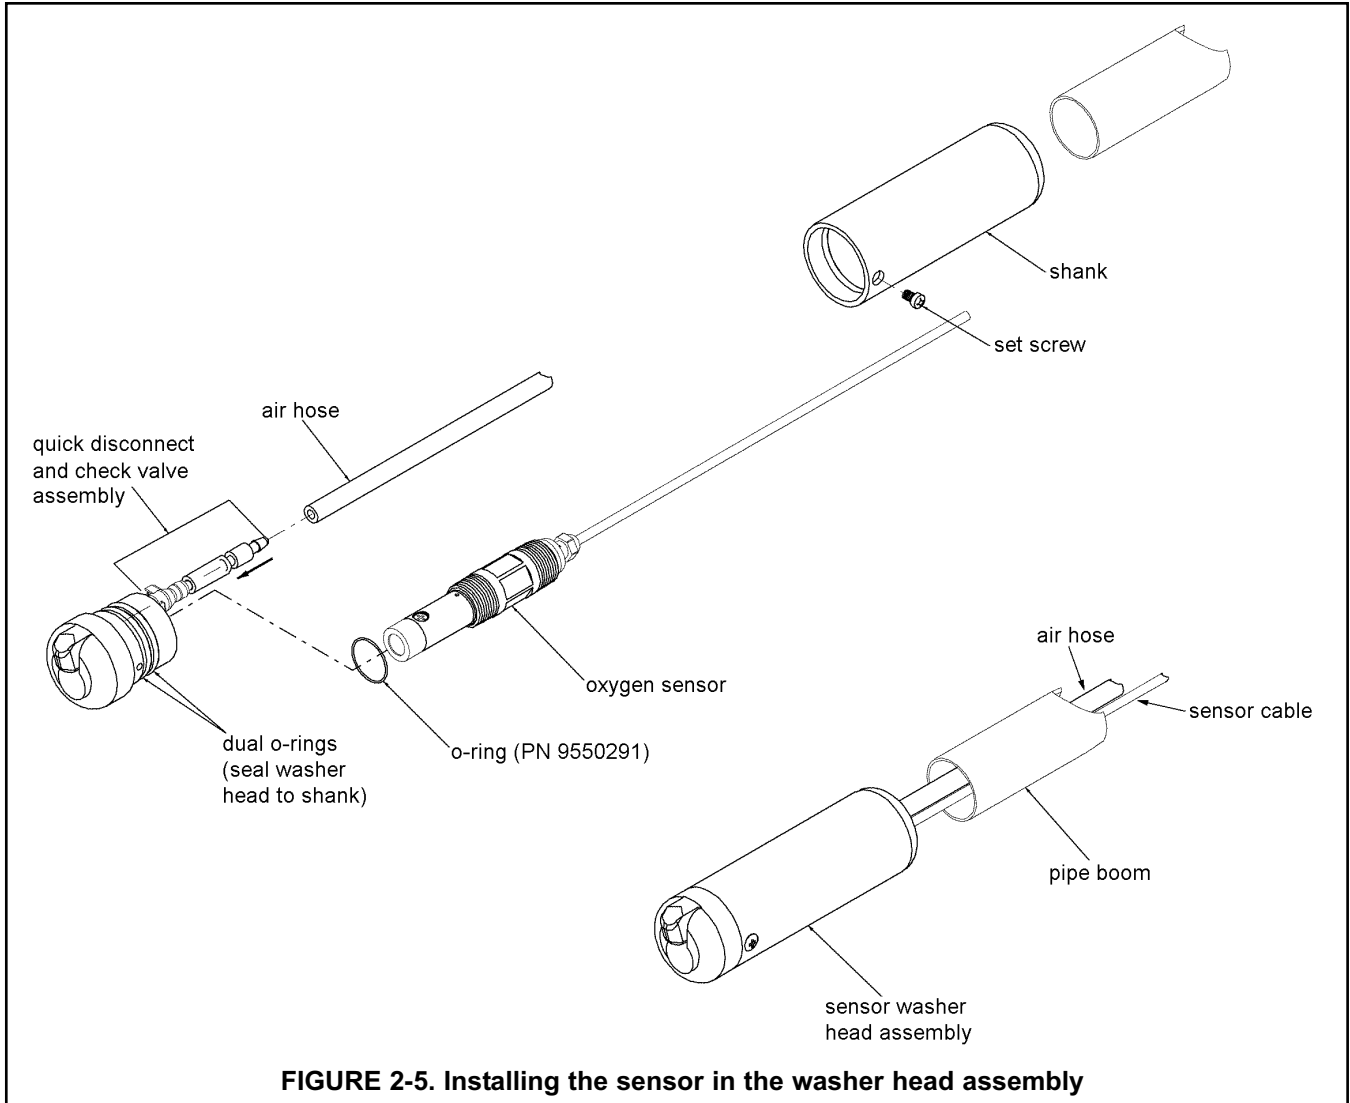

FIGURE 2-5. Installing the sensor in the washer head assembly
3. Remove the set screw at the bottom of the sensor washer head assembly. See Figure 2-5. Pull the washer head from the shank. You are pulling against a dual O-ring seal.
1. Cement the upper portion of the washer assembly head to the PVC pipe boom. See Figure 2-5. Use 1-1/2 inch schedule 80 PVC pipe. Press (do not cement) the PVC elbow (PN 9320101) to the top of the pipe boom. The elbow keeps water from collecting in the pipe boom.